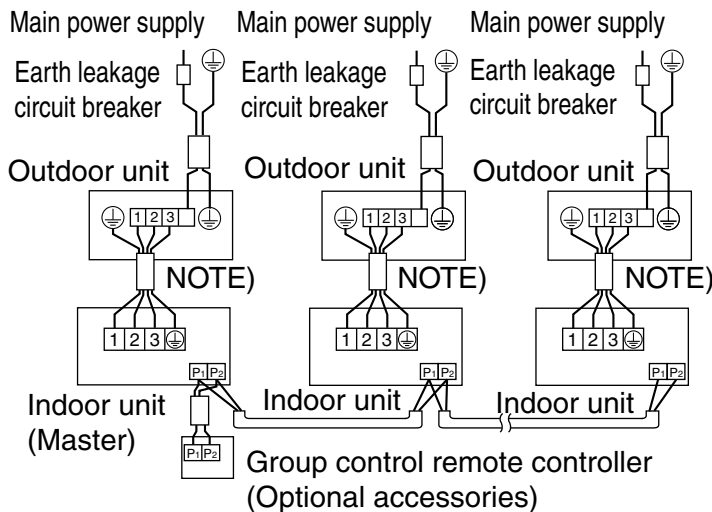

Fig. 26
(All indoor units operate according to the remote controller). (Refer to Fig. 26)
- (1) Remove the control box lid. (Refer to “5. INDOOR UNIT INSTALLATION”.)
- (2) Lay crossover between the terminals (P1, P2) inside the control box for the remote controller. (There is no polarity.) **(Refer to Fig. 26 and Table 4)**